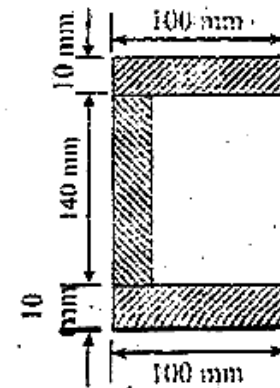

Figure-2
- (b) A beam of thin-walled channel section, as show in Figure-2, has uniform thickness of 10 mm throughout the flanges and the web. The beam is to be loaded in a vertical plane parallel to the web, so as a produce pure bendig. Find the location of the shear centre of the section, through which the load should act. Show the distribution of the shear stress on the cross section. 6-2